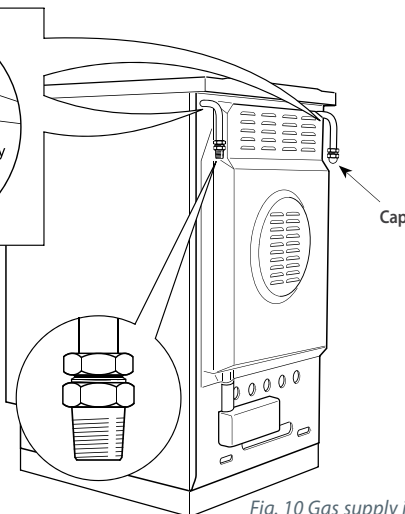

Fig. 10 Gas supply inlets
- Close off the unused inlet with the cap and sealing washer supplied (Fig. 10).
- It is important that the hose does not come in contact with the metal of the appliance and is secured as per appropriate gas installation codes. A chain 80% of the length of the flexible gas hose must be used to prevent stress being applied to the hose. The chain should be attached securely to the product where shown (see Fig.10), and on the wall.